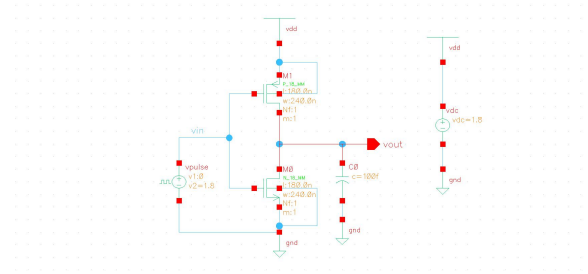

Fig. 6. Schematic diagram CMOS inverter
1) The schematic diagram to calculate rise time τ_{rise} , fall time τ_{fall} & propagation delay τ_{pd} is shown in Fig 6.